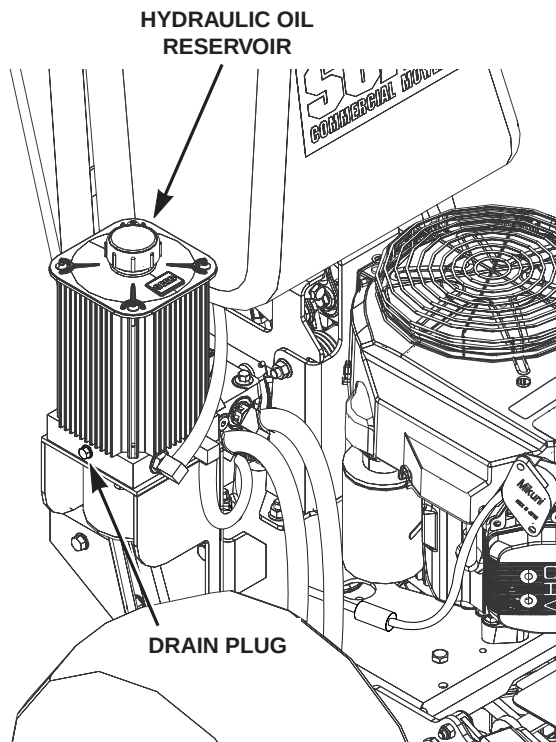

Figure 7-2 Hydraulic Oil Reservoir
2. Place a suitable container under the hydraulic oil filter. Remove the fill cap from the reservoir. Remove the drain plug from the fitting on the reservoir base. (See Figure 7-2). Allow the fluid to drain into the container and properly discard it.